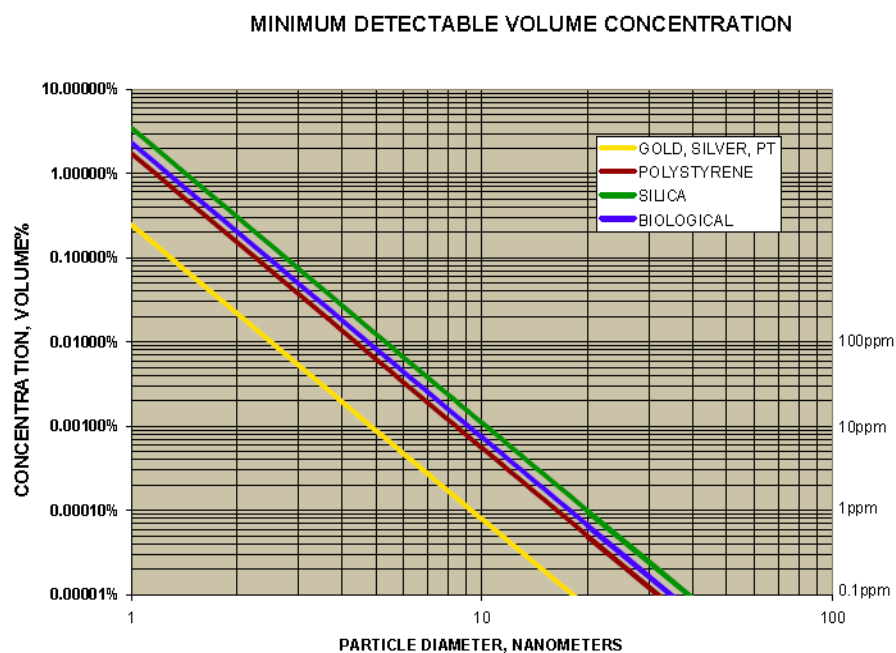

Fig. 5: Minimum detectable concentration for a S/N =1
4. From transparent beverage to carbon black, all samples can be measured, provided the sample concentration is not too small for the small size end – see Fig. 5 - or not too high for the high size end
There are detection limits in DLS: On the small size end it is the rapidly decreasing scattering intensity. For the 180° DLS realized in the Particle Metrix NANO-flex the minimum concentration is given in figure 5. In the high size range, the scattering is comparably strong. A few particles in the high size range represent a statistically bad situation. Depending on the manufacturer and the applied software features, big particles are either sorted out by the software as “dust” or taken into account, whereby the statistical significance suffers. In the 180° DLS intensity mode both ends are seen, provided the sample concentration at each fraction of the size distribution allows it. Examples are shown in the application section of this exposé.